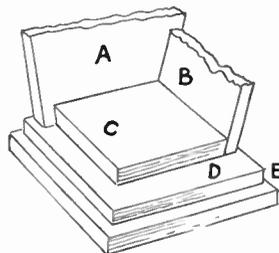

Fig. 3—How the holder is built up
(D). The base is made up of the two pieces (D) and (E); (D) measuring $2\frac{1}{2}$ ins. by $2\frac{1}{2}$ ins., and (E) $3\frac{1}{2}$ ins. by $2\frac{1}{2}$ ins. Cut these two pieces and glue them together, taking care that a $\frac{1}{4}$ in. margin is kept at the sides and an $\frac{1}{8}$ in. margin at back and front. Then on top of these two pieces a third piece (C) is glued, over which the completed 'box' must be glued, exactly as seen in the cut-away diagram Fig. 3.